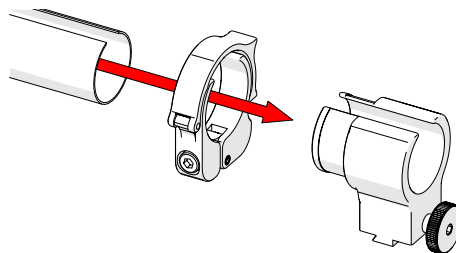

Fig. 95 - Slide tube around mount
2. Slide the clamp around the tube first and then slide the tube around the outside of the cable management dovetail mount (*Fig. 95*). Align the zipper opening and the cable management dovetail mount opening.